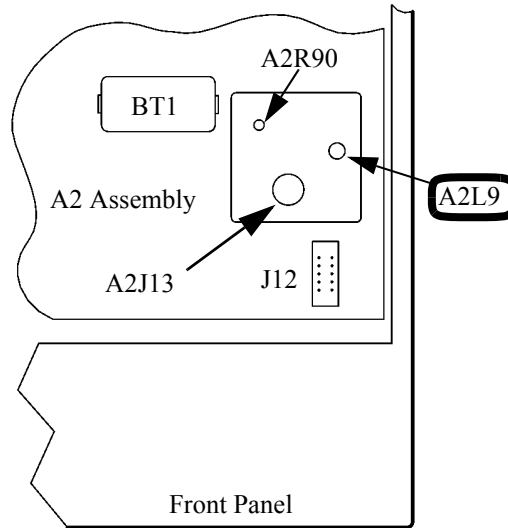

Figure 3-4: A2R90 Adjustment Location
14. Remove the power meter's cover and adjust A2R90 until the DVM indicates the calculated value of V_1 . Refer to Figure 3-4 for the position of A2R90: